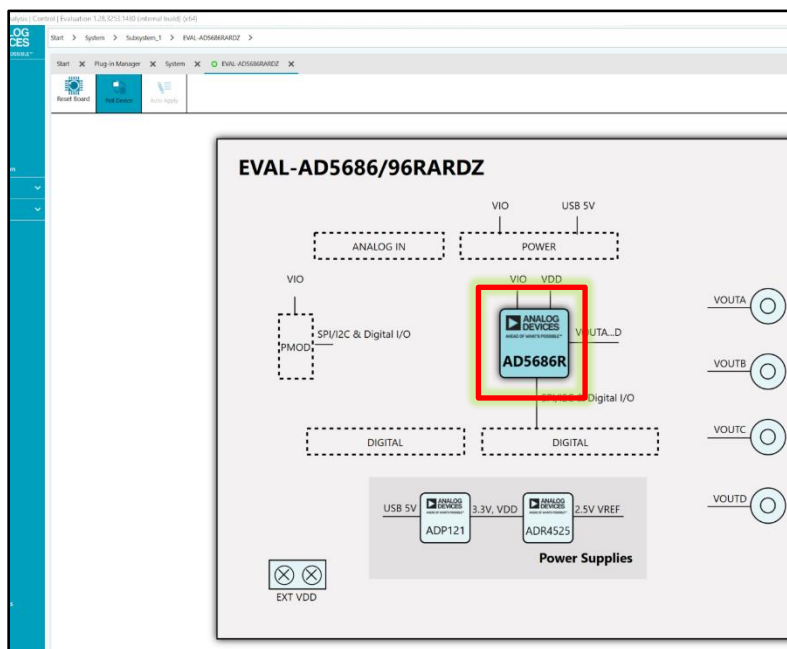

Figure 17
- Figure 17 will show up, double-click the AD5696R chip image.